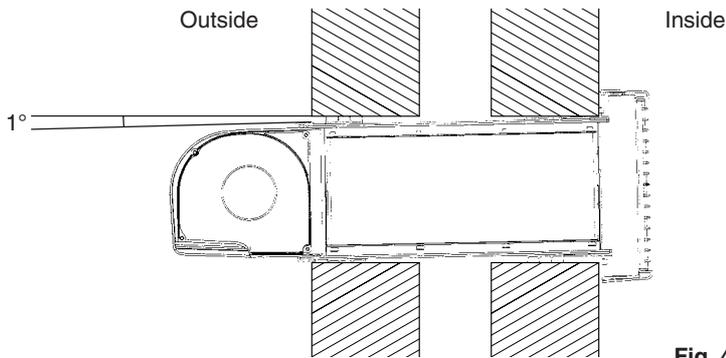

Fig. 4
4. Cut the mounting hole to a diameter of 152mm (6") using a core drill. Ensure that there is a slight fall on the hole, from inside to outside (Fig. 4).